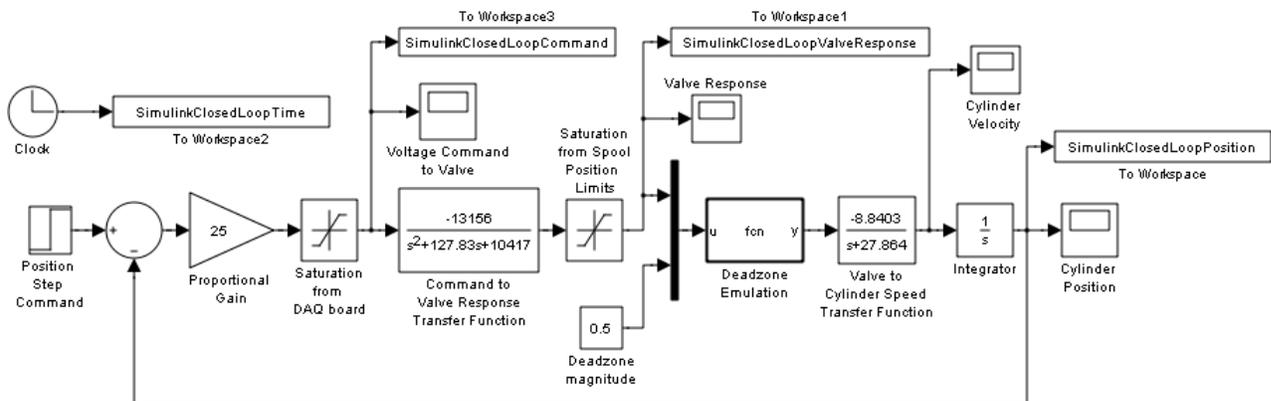

Figure 4. Simulink Model of Closed Loop Hydraulic Actuation System
- **Fig. 4** shows a Simulink model of the closed loop hydraulic actuation system. As in the root locus analysis, the valve and cylinder transfer functions were derived from the 5 volt data.